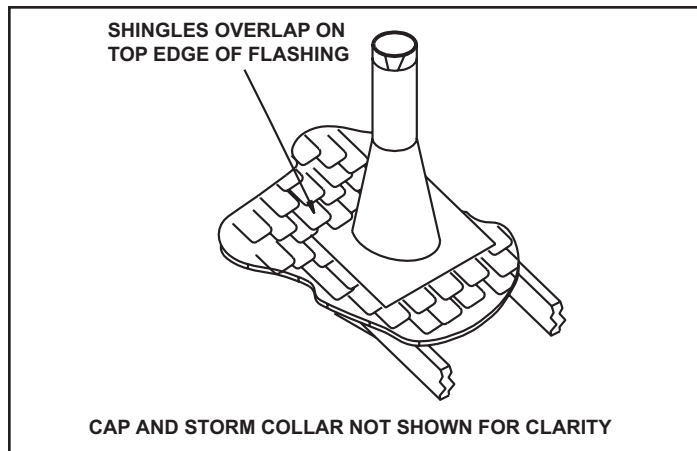

Figure 5.14
**Step 6** - Slip the flashing over the pipe section(s) protruding through the roof. Secure the base of the flashing to the roof with roofing nails. Ensure the roofing material overlaps the top edge of the flashing as shown in Figure 5.14. Verify that the chimney is the required height above the roof. See roof pitch table, Figure 4.3.